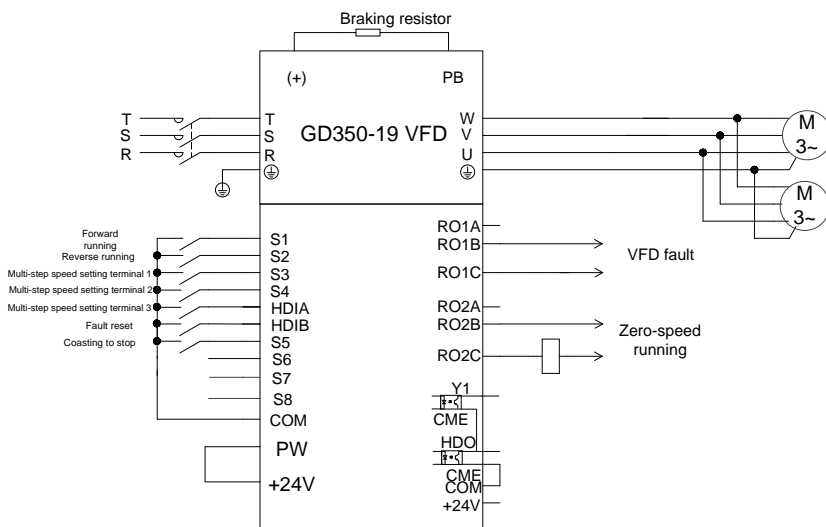

Figure 5.4 Wiring for tower crane rotating
**Note:** If the wiring is performed according to Figure 5.4, most VFD parameters need no adjustment. If the onsite function terminals are inconsistent with the terminals shown in the figure, adjust the input and output terminal functions according to the actual wiring after selecting the tower crane rotating application macro.